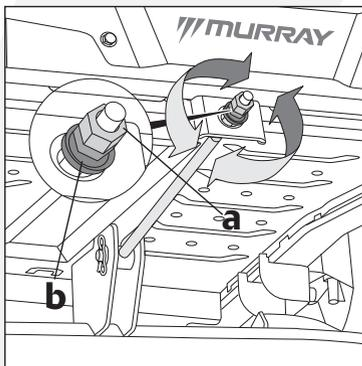

Fig. 23
3. If front-to-back adjustment is needed, after loosening the outer jam nut (a, Fig. 23), turn the inner adjustment nut (b, Fig. 23) clockwise to raise or counterclockwise to lower the front of the cutting deck.